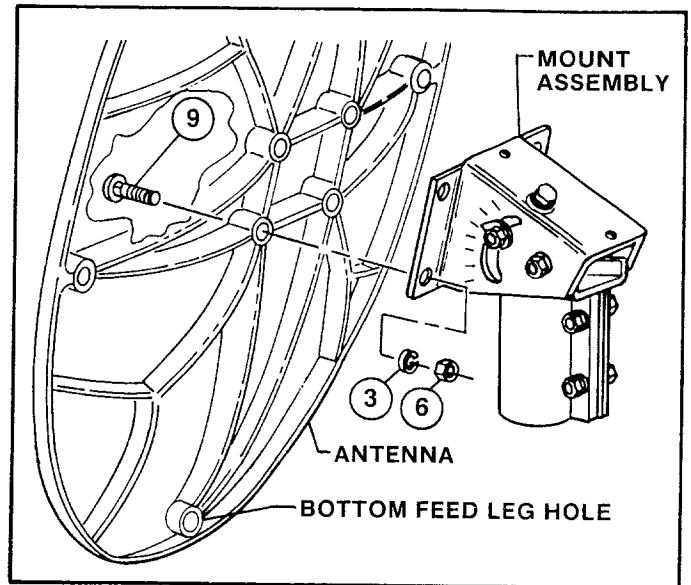

FIG. 1.4—ASSEMBLING ANTENNA TO AZ/EL CAP MOUNT
Install four M8 x 60 (2 $\frac{3}{8}$  in.) round head, square neck bolts (9) into holes in center of antenna and cap mount flanges (Reference Fig. 1.4). Install four lock washers (3) and hex nuts (6) on bolts.
**NOTE:** Bottom feed leg hole to be located as shown in Figure 1.4.